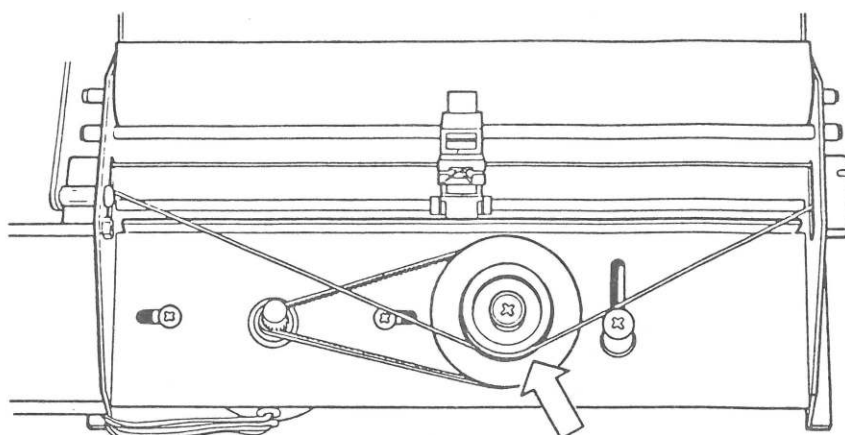

FIGURE 3
2. Rotate the pulley (Figure 3) until the print head is in the center of the platen.